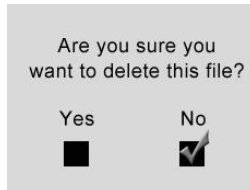
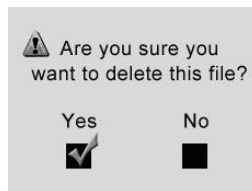

Fig. 22
Fig. 23
- ✓ Either in the **Photo** mode or in the **Video** mode, press the **Trash Can** button to delete captured photos and videos, and a “**Are you sure you want to delete this file?**” message appears on the screen. (*Fig. 22 and Fig. 23*) Use the **LEFT** and **RIGHT** arrow buttons to select **Yes** or **No**, then press the **OK** button to save your selection.